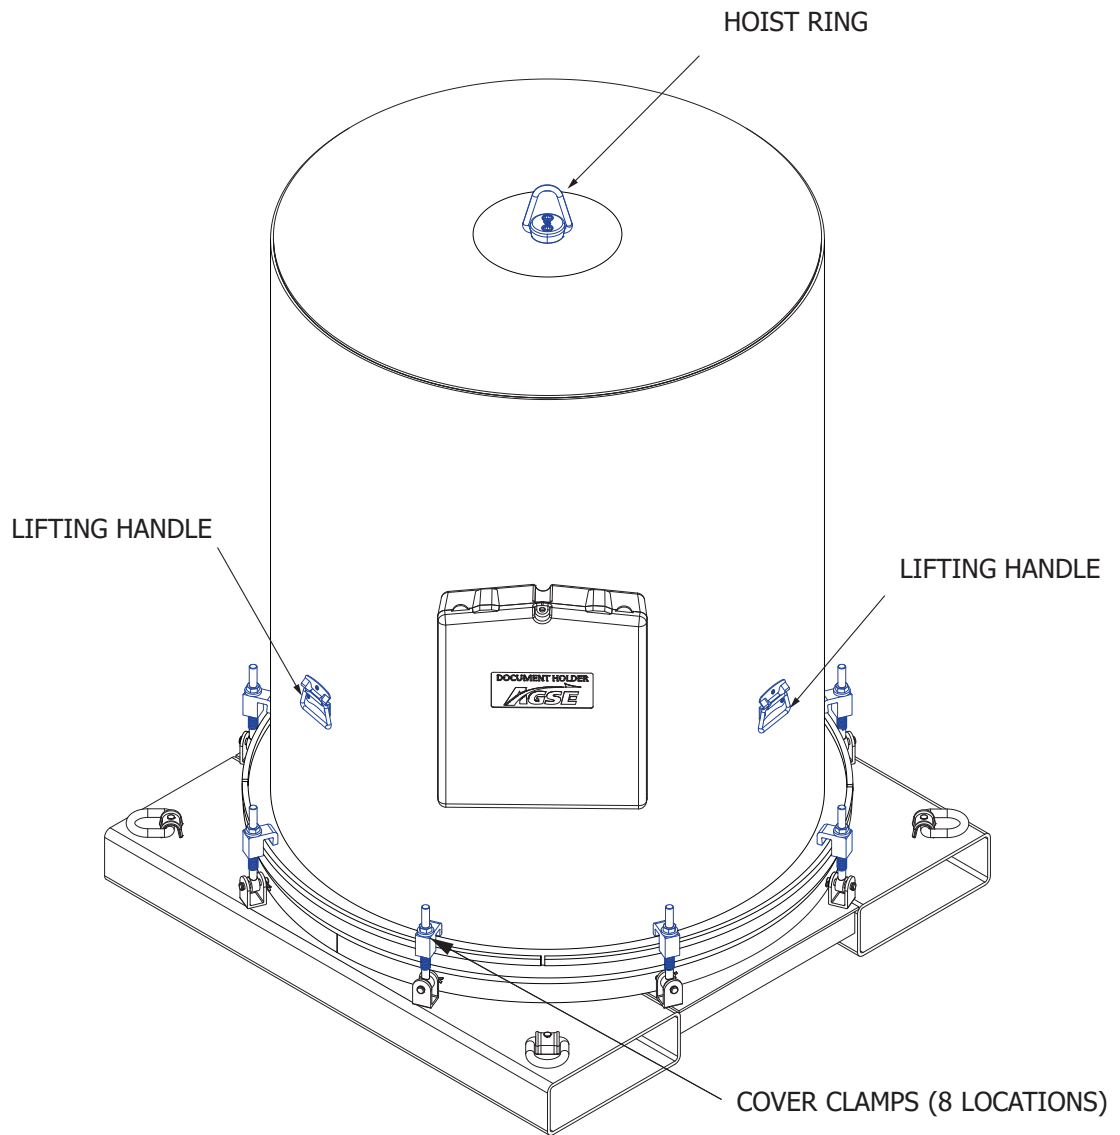

Figure 5.1-1. Hoist & Lift Handle
2. Release the cover clamps (8) and remove cover (126 lbs.) using hoisting system connected to the designated hoist rings on the top of the cover. (Figure 5.1-1). The cover can manually be lifted by two persons using the lifting handles (Figure 5.1-2). Set the container cover aside.
1. Install cover using a hoisting system by the hoist ring on top of the cover or manually lifted by two persons using the lifting handles (Figure 5.1-1), secure by tightening the hex nuts on the eight (8) container clamps. (Figure 5.1-1)
- 1) Remove container cover assembly by loosening eight (8) hex nuts of the container clamps. The cover can be lifted using a hoisting system by the hoist rings on top of the cover or manually lifted by two persons using the lifting handles (Figure 5.1-1). Set the cover aside.
- 7) Install the container cover and secure by tightening the hex nuts on the eight (8) container clamps. (Figure 5.1-1)